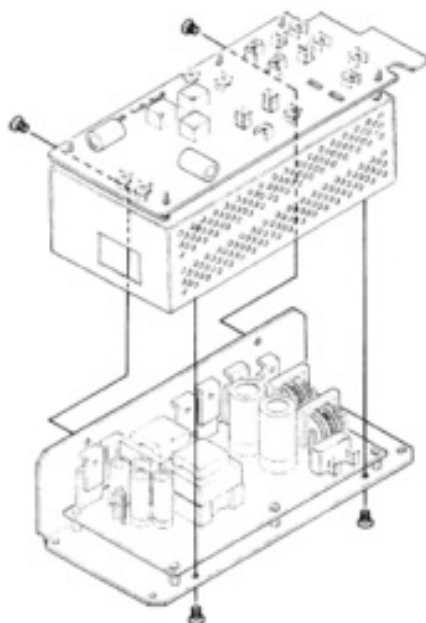

Figure 3
- Referring to Figure 3, remove the four screws and remove the heatsink from the Switching Regulator Unit.